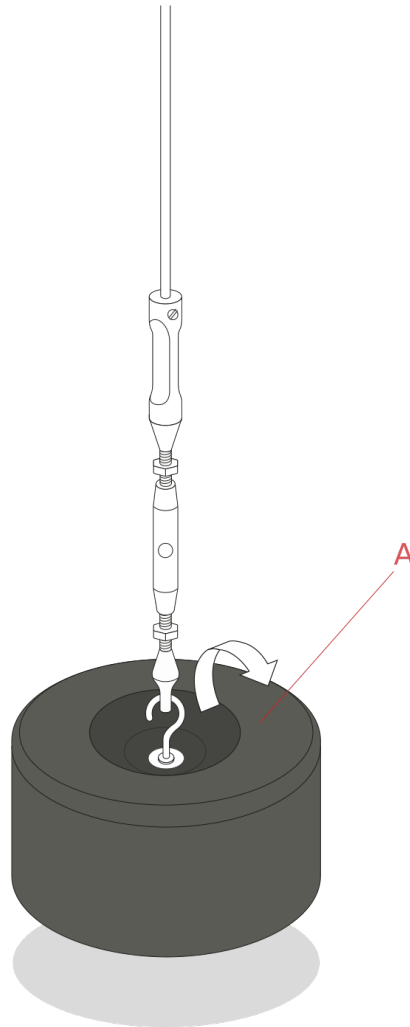

Fig.1
**WARNING!** Lifting up the counterweight will cause mechanical tension loss of the suspension wire, causing the tube and lamp support to fall down. (Fig.1 page 1)